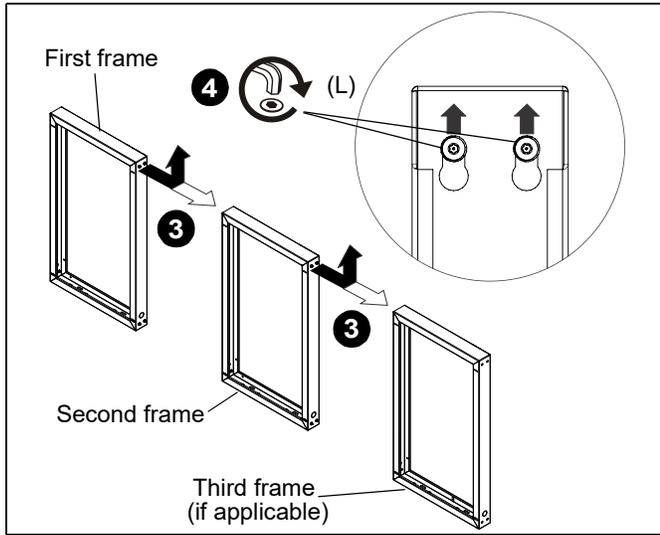

Figure 8
- Position the holes on the side of the second frame around the exposed 8 x 20mm security screws (L) in the first frame, then shift the second frame down so that the hardware falls into the slots. Make sure both washers are positioned on the inside of the second frame. (See Figure 8)
4. Tighten the screws to secure the frames. (See Figure 8)